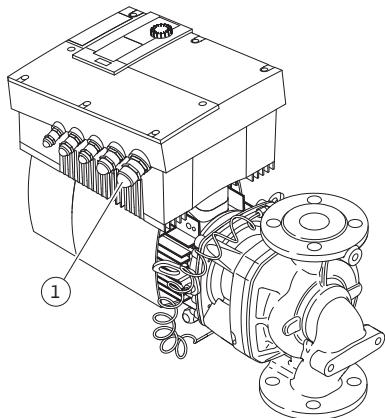

Fig. 25: NPT  $\frac{3}{4}$ " threaded cable connection
- The electrical connection must be established via a fixed power cable which has a plug attachment or an all-pole switch with a contact opening width of at least  $\frac{1}{8}$ " (3 mm). Use 140/167 °F (60/75 °C) copper conductors only. The power cable is to be fed through the NPT  $\frac{3}{4}$ " threaded cable connection (Fig. 25, Item 1).